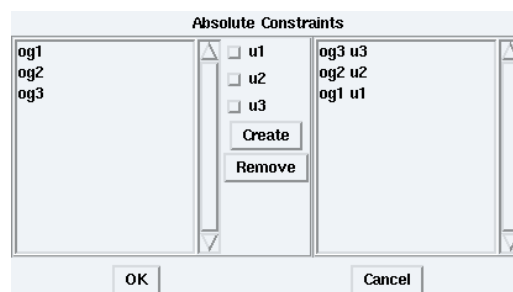

Figure 1.23: Constrain operation groups on operators of the architecture selected
- * click on **OK** button (*cf.* figure 1.23),